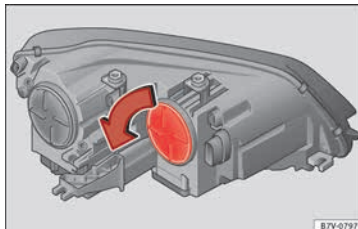

Fig. 108 In the engine compartment: turn signal indicator cover.
- Rotate the cover » **Fig. 108** in the direction of the arrow and remove it.
7.	Rotate the cover » Fig. 108 in the opposite direction to the arrow as far as it will go.